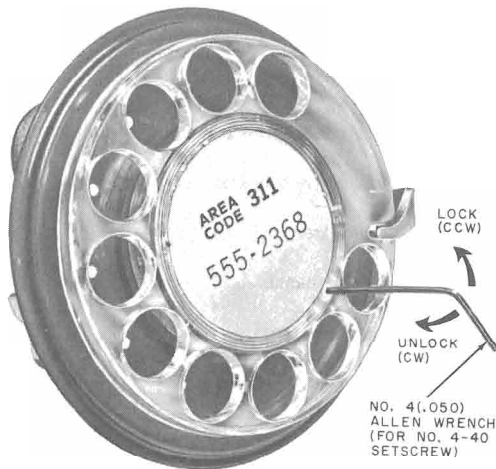

Fig. 7—Installing Fingerwheel on 8U Dial
- (1) Using a No. 4 (.050) Allen wrench, turn the setscrew in a clockwise direction until it clears fingerwheel (Fig. 7).
- (1) Ensure that setscrew is all the way in (clockwise).
- (2) Place fingerwheel on dial with operator hole over the 9 position.
- (3) Rotate fingerwheel counterclockwise until it is in its normal position.
- (4) Using a No. 4 (.050) Allen wrench, turn the setscrew in a counterclockwise direction until the stop is reached (Fig. 7).